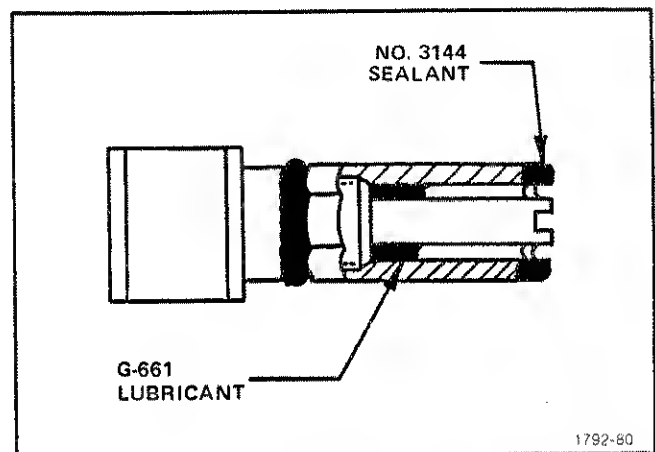

Fig. 5-27. Detail showing lubrication and sealing for the variable resistor.
3. Pack the Shaft/Threaded Bushing interface with G-661 lubricant as shown in Fig. 5-27.
4. Form a bead of No. 3144 sealant on the end of the Hex space nut as shown in Fig. 5-27.